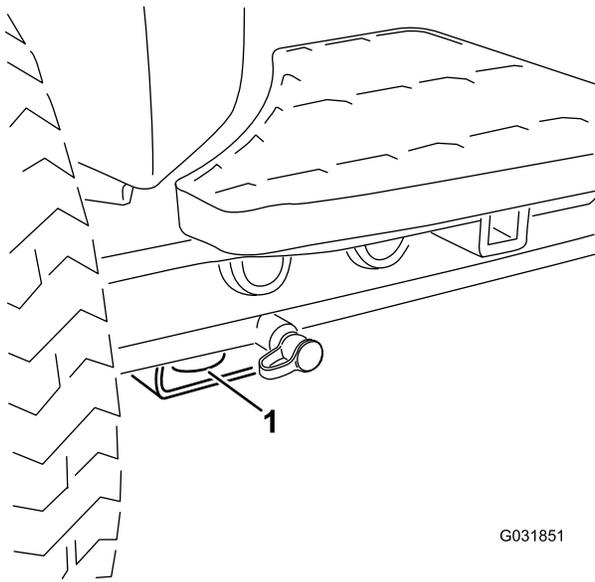

Figure 56
- **Front of the machine**—the hole in the rectangular pad, under the axle tube, inside each front tire (Figure 56).